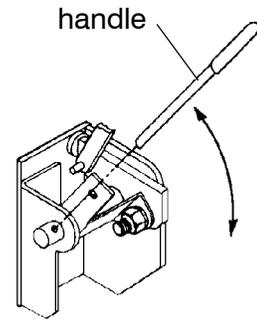

Figure 1-2. Maintenance handle for E-design 260 and 400 ampere
*260 and 400 amp. E-design* See Figure 1-2.